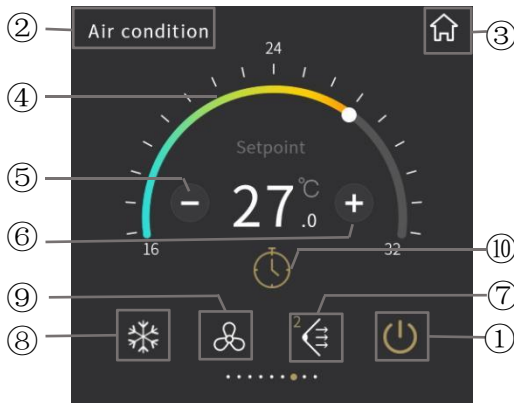

Fig.2.4.1
② This area displays the page description identification of Air-Conditioner control, user can define the description through ETS;
③ Return to Home page by touching this icon;
④ Adjust the setting temperature by sliding this ring slider;
⑤ The function of this icon is to decrease the temperature;
⑥ The function of this icon is to increase the temperature;
Adjusting the temperature by sliding the ring slider④ or touching the icon⑤ and icon⑥. For each touching of icon⑤ and icon⑥, the adjustment range is 1.0 degrees. When the setting temperature unit is set to degrees Celsius(°C), as shown in Fig.2.4.1, adjustment range of the setting temperature is 16~32°C by default; when the setting temperature unit is set to Fahrenheit(°F), the current temperature value will automatically convert to Fahrenheit value, as shown in Fig.2.4.2, adjustment range of the setting temperature is 61~90°F by default. The temperature adjustment range can be modified through parameter setting.
Under fixed vanes position, select one of the 5 options (#1, #2, #3, #4, #5) for vanes position, for instance, select #2, interface as shown in Fig.2.4.3, then touch the area outside the sub-window to return the previous level function page, the position selected will be shown on the function page, as shown in Fig.2.4.1. For vanes swing, because vanes position change all the time, there would be no fixed position, only display character "Swing" on the interface.
Vanes swing function set to be disable or enable by parameter configuration. When disable, there will be no vanes fixed/swing item shown on the interface, as shown in Fig.2.4.1; when enable, vanes position can be adjusted.
⑩ Turn on timer function by touching this icon;
Icon⑩ on indicates timer turn on; icon⑩ off indicates timer turn off. Timer function can be enabled via the parameter configuration. When timer function is disabled, there would be no timer icon as shown as Fig.2.4.1 on the interface; when enabled, timer can be configured.